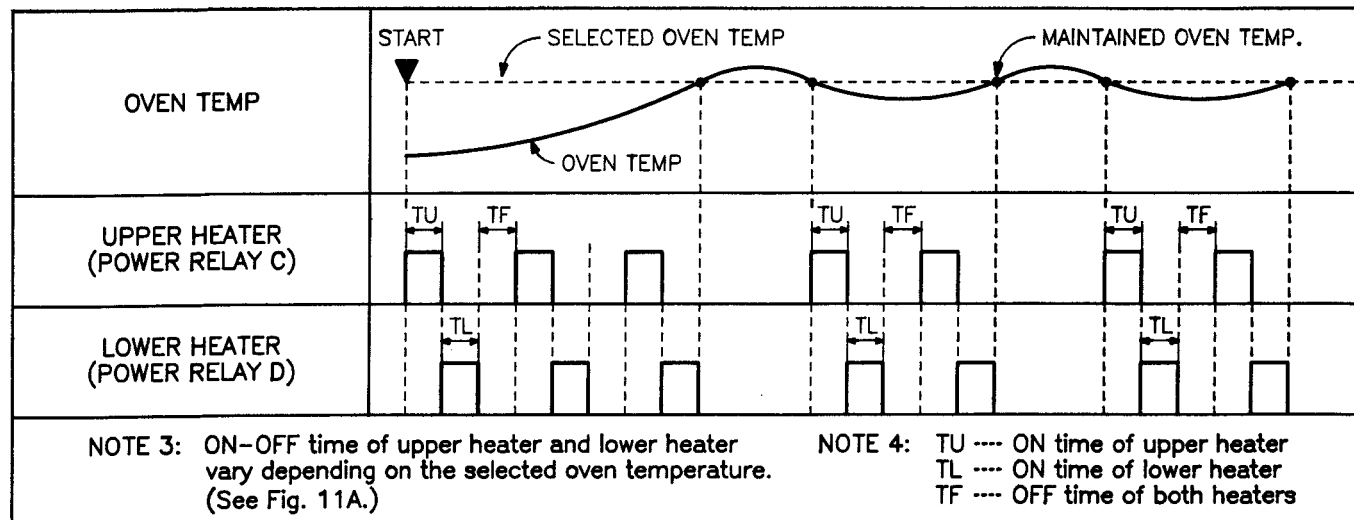

Fig. 11
- (A) After the start pad is tapped with the desired bake or broil programme selected, an 18V DC signal comes out of the digital programmer circuit and is applied to the coil of power relay C and D alternately.
- (B) When power relay C energizes, power source voltage (120V AC) is applied to the upper heater and oven temperature starts increasing.
- (C) When the power relay C is deenergized, upper heater turns off and when power relay D is energized, the lower heater turns on. In this way, the upper and lower heater turn on alternately until the selected oven temperature is obtained.
- (D) When the oven reaches the selected temperature, the digital programmer circuit senses the temperature through oven temp sensor and stops supplying 18V DC signal to the power relays C and D resulting in turn off of upper and lower heaters. After the heaters have been turned off, the oven temperature will continue to increase a while then decrease as shown in Fig. 11.
- (E) When the oven temperature drops below selected temperature, the digital programmer circuit senses the oven temperature and starts supplying 18V DC to the coils of power relays C and D alternately again.